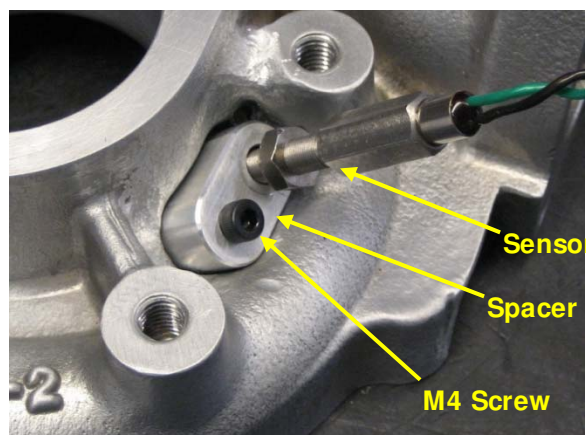

Fig. 4
4. Take your compressor housing and the highlighted layout 776243 (all sheets) to a qualified machine shop. Make sure the machinist is capable of meeting the tolerances on the drawing and knows which row of dimensions to use before agreeing to pay for the work. You may want to supply the machine shop with the spacer, screw and speed sensor so they can test-fit the parts in the housing (see figure 4).